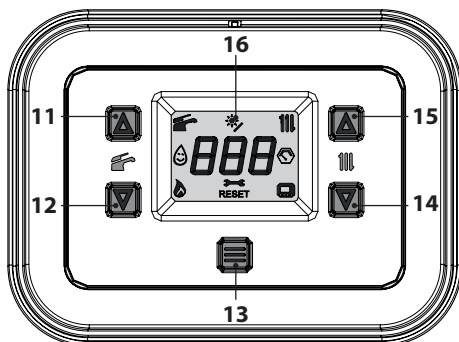
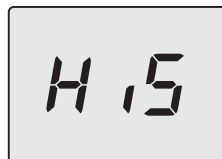
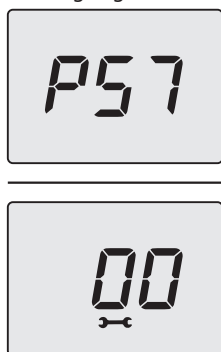

Figure 5.47
Figure 5.48
Figure 5.51
- Enter "programming mode" by pressing the 12 and 14 keys simultaneously for 5 seconds (Figure 5.47) until **HiS** (Boiler History) appears on the LCD display (Figure 5.48).
- Press the 13 key for 1 second (Figure 5.47) to enter the selected parameter. The display will show the following (Figure 5.51).
- Press button 13 (Figure 5.47) to confirm the value entered. The display will show the following
- Press the keys 12 and 14 simultaneously (Figure 5.47) to exit the level without changing the value (return to the previous level).
- press the 12 and 14 keys simultaneously for 5 seconds (Figure 5.47) (return to previous level).